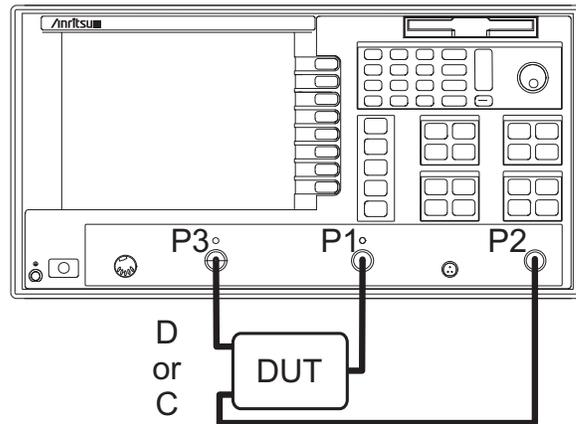

Figure 5-1. *Three-Port Balanced Measurement Setup
It is important that the single-ended port of the device under test (DUT) be connected to Port 1 of the MS462XX and the remaining ports connected to Ports 2 and 3 of the MS462XX (see Figure 5-1).
2. Connect the DUT as shown in Figure 5-1. Make sure that the unbalanced port of the device is connected to Port 1 of the MS462XD.
2. Connect the DUT as shown in Figure 5-1. Make sure that the unbalanced port of the device is connected to Port 1 of the MS462xD.